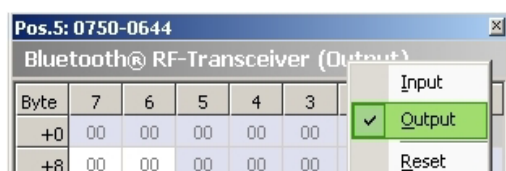

Figure 53: Display *Bluetooth*® output data
4. In the context menu, choose **Output Data** (see Figure 53).